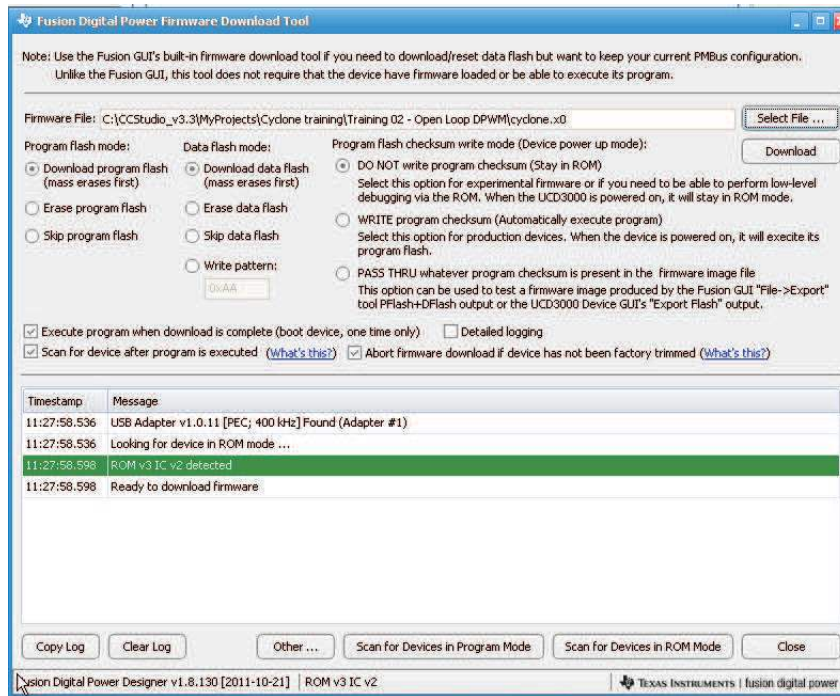

Figure 7. Firmware Code Downloading
4. Click *Firmware Download* and a new window appears as shown in Figure 7. Click *Select File* and browse an intended firmware code file with file extension *.x0*, for example, *cyclone.x0*. Then click *Download*. TI recommends not writing the program *checksum* (stay in ROM) during firmware development or debug state. The firmware of *cyclone.x0* downloads to the device UCD3138 on the board of UCD3138CC64EVM-030. When asked, click *yes* to complete the download. Click *Close* to exit the download window.